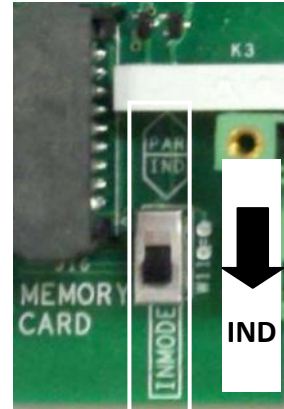

Figure 3:13- INDependent mode switch configuration Switch
- Ensure the parallel jumpers shown in Figure 3:14b, are **not present**.